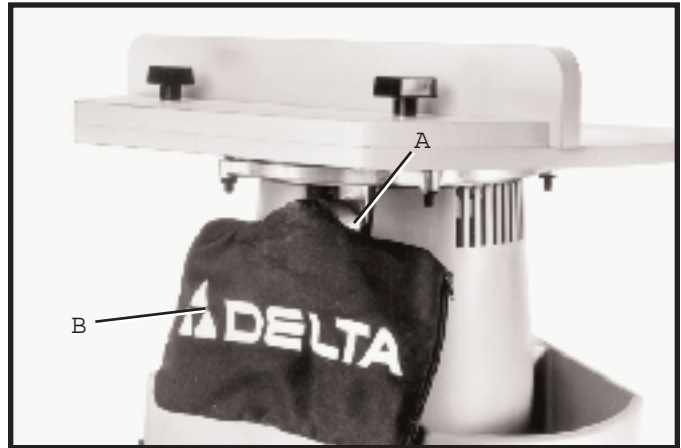

Fig. 13
2 To assemble the dust bag (B) Fig. 13, over the dust chute (A), simply squeeze the spring clamp on the dust bag and assemble it over the dust chute as shown.